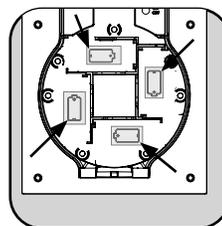

Figure 9
3.5 Place 4 C - Alkaline Batteries (one set included) in the Handle. See the '+' and '-' signs on the battery slots (Fig. 9)